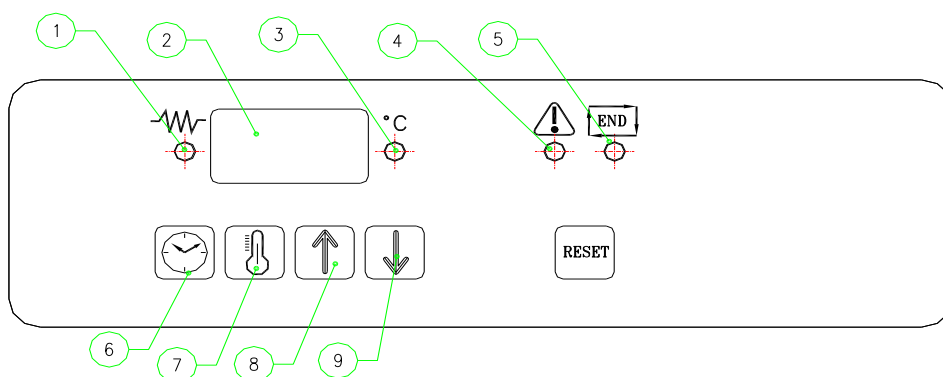

Fig.4
- Wait for the acoustic device or the led of ending cycle switch on (pos.5 fig.4), and pull the drawer out immediately to avoid the overheating of heat-shrinking film.
-the thermostealing operation can not be happened before that the sealing plate has reached the adjusted temperature (Led pos.3 a light fig.4). The machine doesn't carry out the cycle